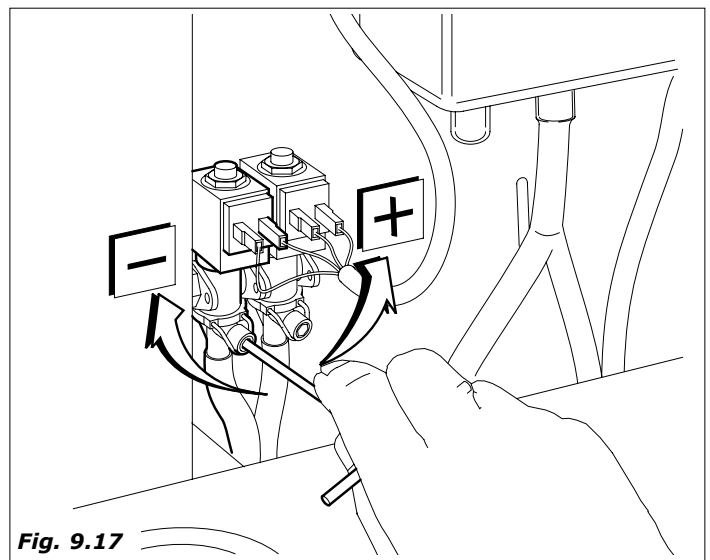

Fig. 9.17
- So as to obtain a thorough rinsing of the bowls eventually turn the solenoid valves water delivery screw. (Fig. 9.17).